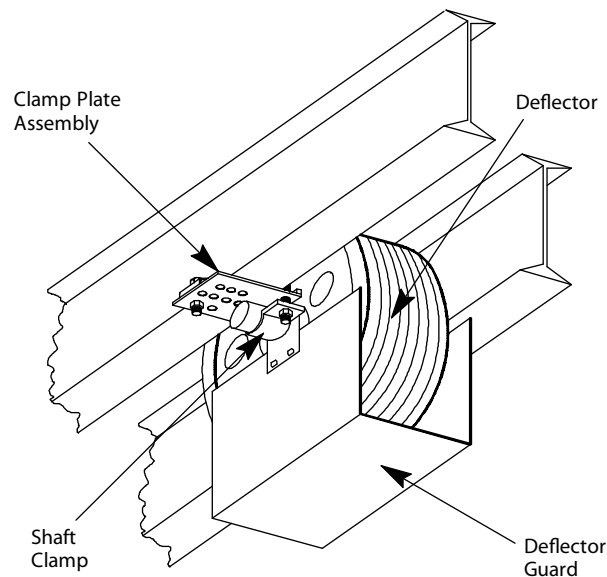

Figure 13 - Deflector Sheave to Machine Beam
8. Mount the deflector guard to shaft clamps. See Figure 13.